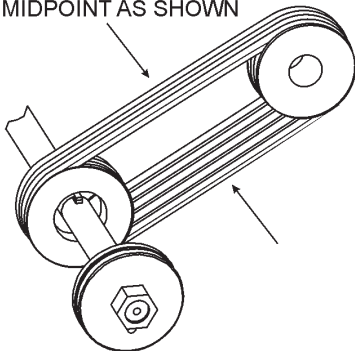

Figure 47. V-Belt Adjustment/Tension
1. Remove the **Belt Guard** (Pointers and Covers Assy., item 15), then loosen the tension of the V-Belts
2. Loosen the (4) 1-1/2" HHC screws (Engine Mount Assy., item 5).
3. Loosen and back-off the **Engine Mount Carriage Bolt** (Engine Mount Assy., item 1) from the frame to permit the **Engine Base Plate** (Engine Mount Assy., item 9) to pivot.
7. Adjust for the correct V-belt tension (See Figure 47).